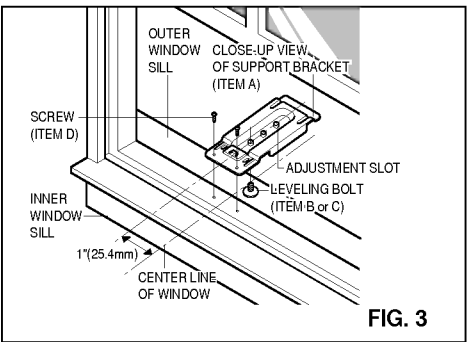

FIG. 3
**3** Install support bracket on window. See FIG. 3. Install leveling bolt up through bottom side of support bracket. You can choose a short bolt (ITEM C) or a long one (ITEM B) according to window type. Also, you should select the position of hole on bracket. Position bracket on sill 1 inch (25.4mm) to left of center line of window (See FIG. 3). Fasten bracket loosely to sill with screws (ITEM D) provided. Adjust leveling bolt so that the air conditioner will be installed with a very slight tilt (about 1/4") downward toward the outside for proper drainage. Tighten bracket screws.